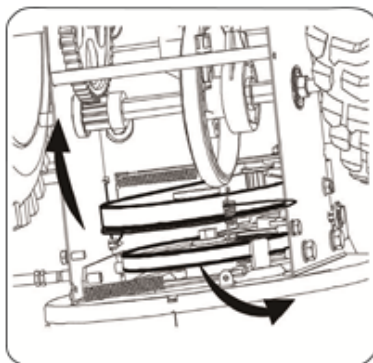

Fig.24
B. Unhook the support bracket spring from the frame. See figure 24.